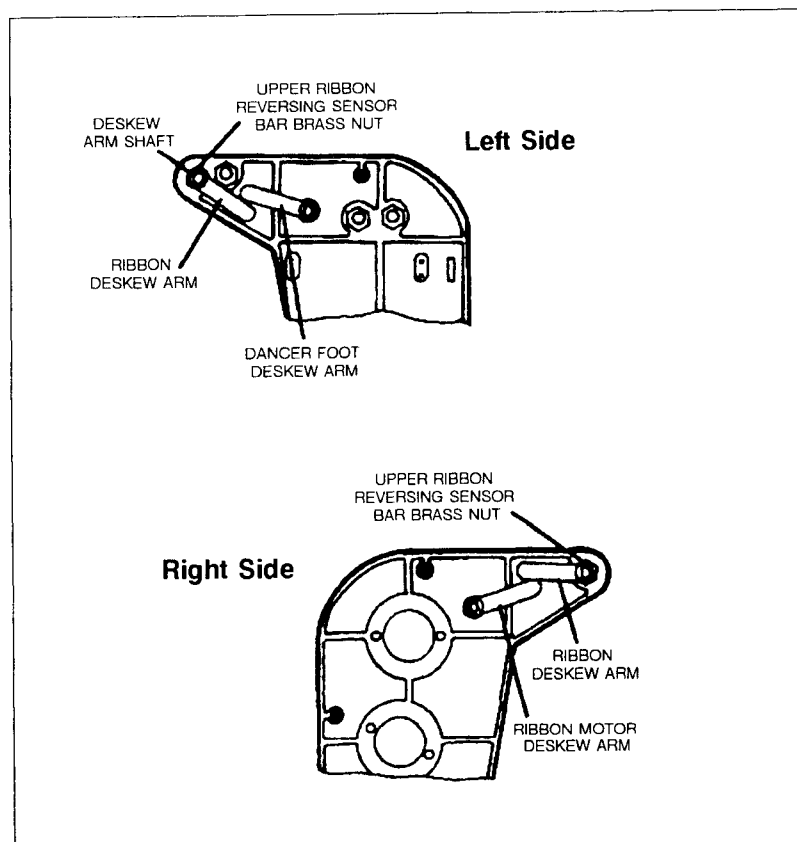

Figure 6-47. Ribbon Bar Deskew Arm Positioning
Remove the brass nut which secures the ribbon reversing sense bar, from the right side of the printer (see Figure 6-47). Removing this nut also causes the ribbon deskew arm, which is pressed onto a shaft, to be forced off the shaft.
To remove the lower ribbon reversing sense bar, remove the two brass nuts on both sides of the bar (See Figure 6-47) and remove the bar from the printer.
- h. Remove the brass nut (see Figure 6-47) from the left side of the ribbon reversing sense bar and remove the bar from the printer.
- d. Insert the deskew arm shaft (with the left ribbon deskew arm attached) into the ribbon reversing sensor bar (through the hole in the left sensor bar brass nut). The deskew arm on the left side should be positioned below the dancer foot deskew arm (see Figure 6-47).
- e. Install the right side ribbon deskew arm by pressing it onto the shaft. The deskew arm (on the right side) should be positioned above the ribbon motor deskew arm (see Figure 6-47).